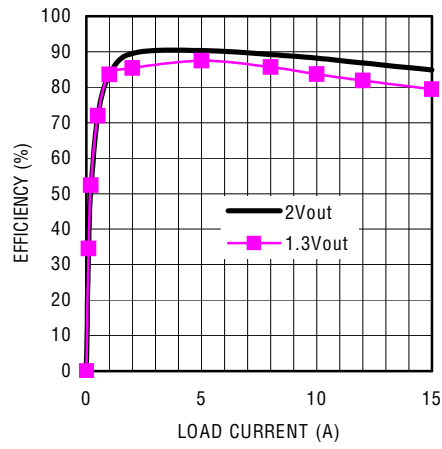

Figure 3. Efficiency @1.3Vout and 2Vout at 15Vin
18. Figure 3 shows efficiency data for 1.30V and 2.00V output.